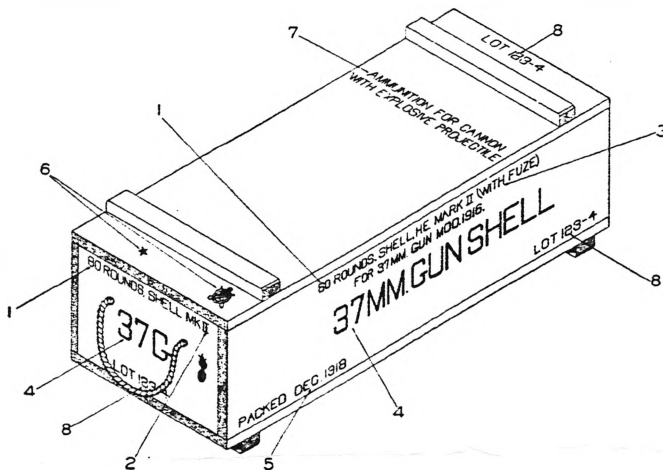
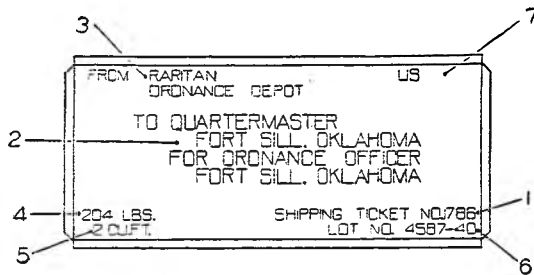

FIGURE 8.—Representative marking on packing box, 37-mm. ammunition
FIGURE 9.—Address side for all packing boxes
10. **Packing of assembled rounds.**—*a. General.*—Complete rounds of ammunition for the 37-mm gun, M1916, are packed and shipped in wooden boxes (fig. 8), each box containing 60 rounds of either high-explosive shell, low-explosive shell, or canister. For further representative details, see TR 1370-A.
*b. Packing box.*—(1) *Dimensions.*—The packing boxes used for high-explosive shell and canister have the following dimensions: 20 inches long,  $12\frac{1}{4}$  inches wide,  $10\frac{1}{8}$  inches high, including cleats; those used for low-explosive shell are  $19\frac{1}{16}$  inches long,  $12\frac{1}{16}$  inches wide, and  $9\frac{3}{8}$  inches high, including cleats. For representative marking, see Figure 8. The address side of all boxes is shown in Figure 9.